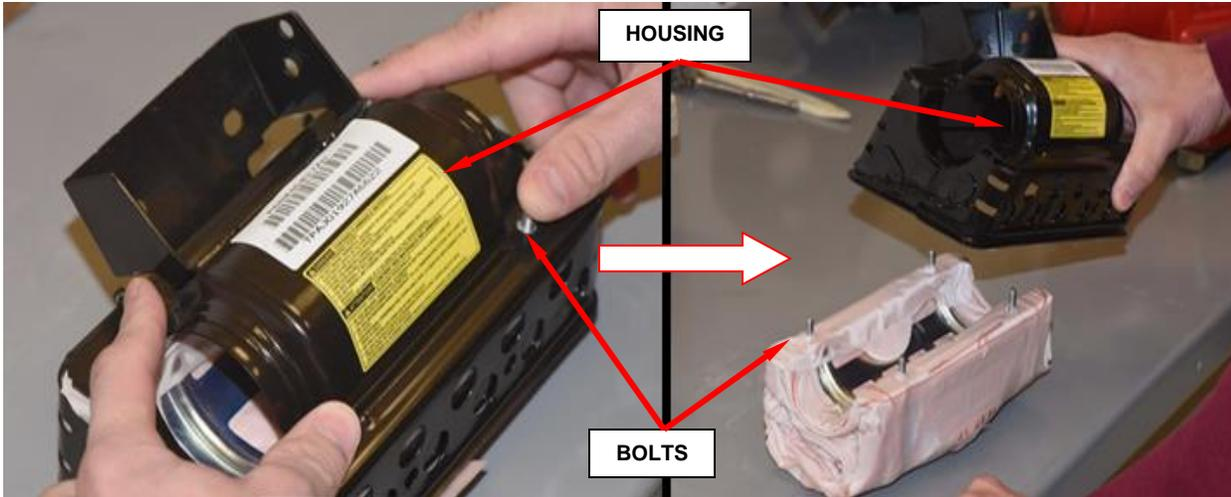

Figure 31 - Remove Airbag Cushion from Housing
- e. Remove airbag cushion from housing by applying pressure to the bolts, set cushion aside (Figure 31).